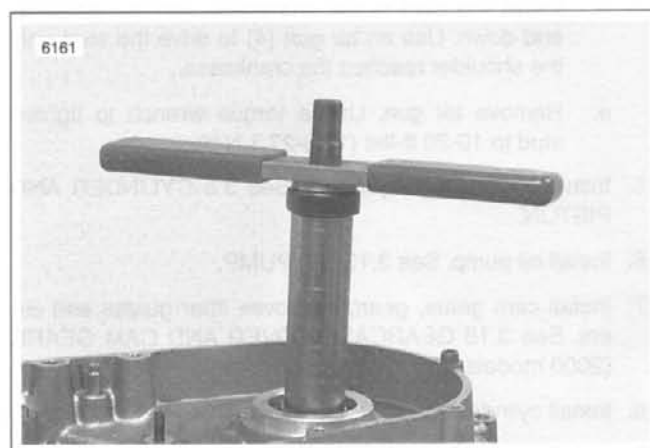

Figure 3-143. Installing Flywheel Spacer and Outer Bearing
- a. See Figure 3-143. Carefully place crankcase half over sprocket shaft so that it rests flat on inner bearing.